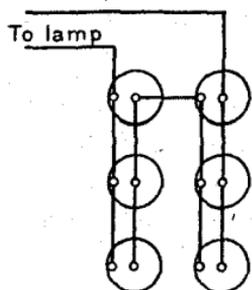

FIG. 3.—Series-parallel connection of 6 cells in 2 units of 3 cells each.
however. For ordinary cases with the small lamp and the 0.6-ampere bulb, 2 units of new cells, each unit containing three cells connected in parallel (see fig. 3), will be sufficient to give a very satisfactory light for 6 hours a day for 10 days. Although rated at 3.7 volts, these bulbs will stand 4.5
with the same battery. It is to be used in cases where the 0.6-ampere bulb will not give a sufficiently powerful light and is to be fitted ordinarily in the signal lamp having the 7-inch reflector. This bulb will consume twice as much current as the 0.6-ampere bulb and should not be used where the other will be satisfactory. When cells are new, the 1.25-ampere bulb should be supplied by two units connected in series, each unit consisting of three or four cells connected in parallel, extra units being added as the cells weaken. (See figs. 3, 4, and 5.) Three units of new cells in series will give as great a voltage as the bulb will stand, since it is rated the same in this respect as the 0.6-ampere bulb.
5. To avoid any confusion in the connections, place all poles of the cells in a certain direction, as shown in Figure 3. If cells with the Fahnstock clips are used, straight wires can be employed as connectors and the wiring simplified, but they are often not available except when cells are ordered in large lots.